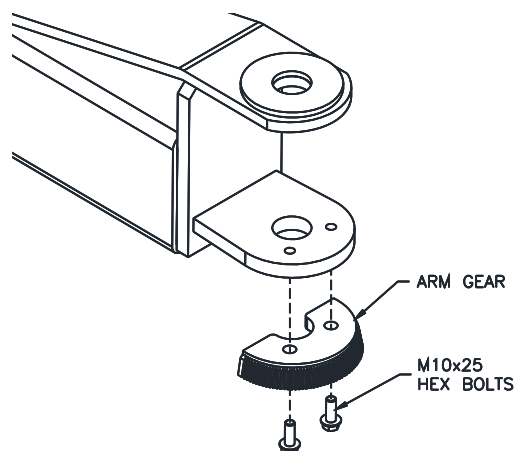

Fig. 20-Inner Arm Gear
- 58) Install inner arm gear to bottom of arm using (2) M10 x 25 Hex bolts as shown in **Fig. 20**. Do not tighten bolts at this time.